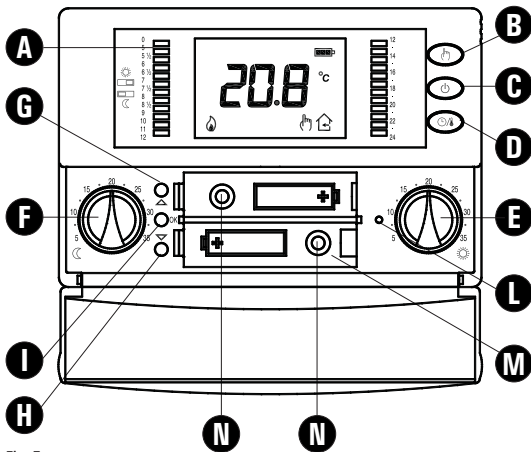

Fig. 5
5. Insert the batteries in the battery compartment (M in Fig. 5); see paragraph 'HOW TO INSERT/REPLACE THE BATTERIES'.